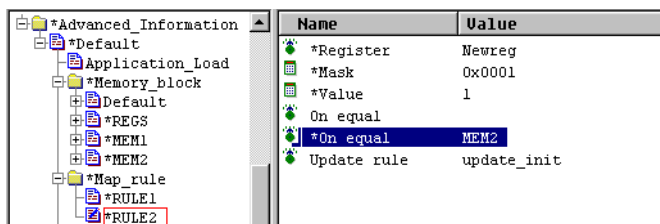

Figure 3-36 Settings for the second map rule
7. Set the value of *On_equal to MEM2, shown in Figure 3-36.